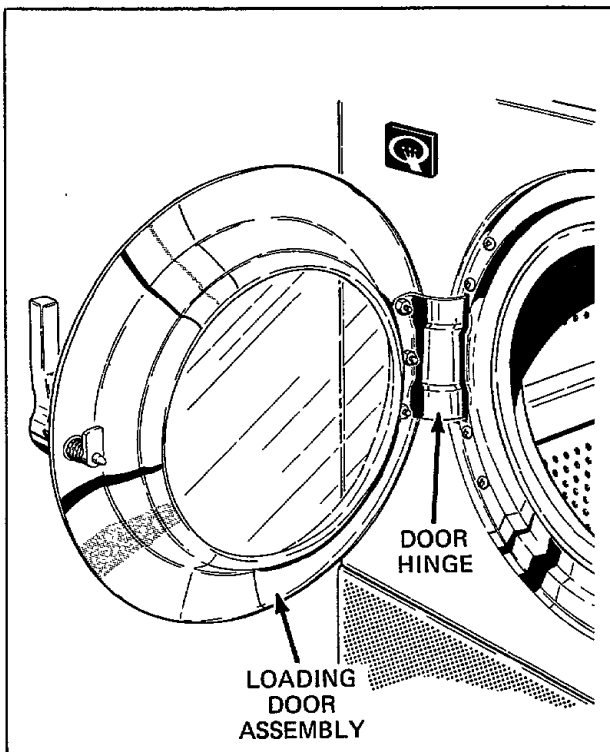

Figure 7
- a. For door shown in *Figure 7*: Open loading door and remove three nuts, lockwashers and washers holding loading door to hinge.